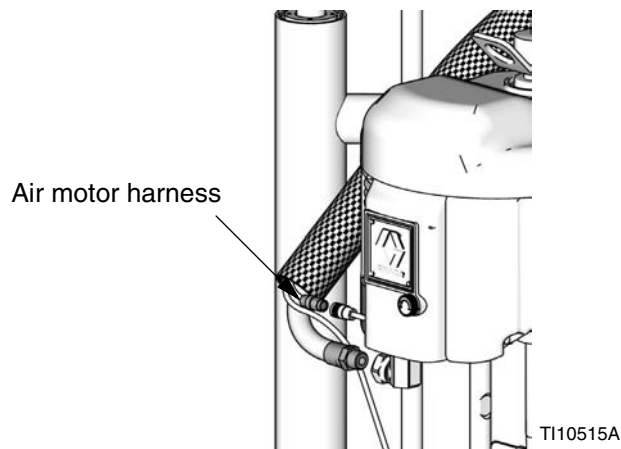
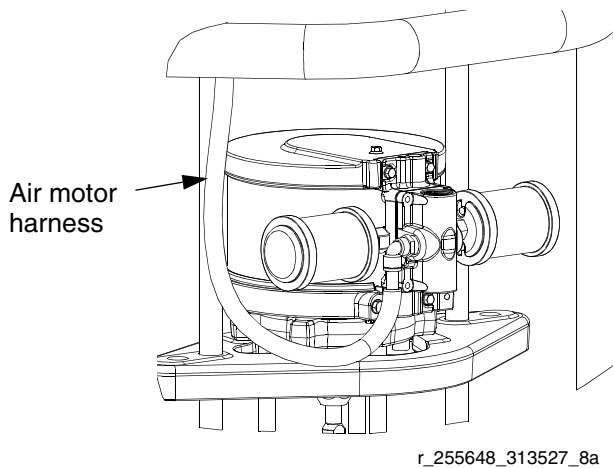

FIG. 21: NXT 2200-6500 Air Motor Harness
FIG. 22: NXT 200-1800 Air Motor Harness
3. Connect air hose to motor. If using a remote Data-Trak, connect electrical connections to the air motor. See FIG. 21 and FIG. 22 on page 25.
2. Secure motor to mounting plate (109) with nuts (114) and washers (113).
3. Install cross bar (1c), nuts (103), and washers (102).
5. Connect air hose to motor. If using a remote Data-Trak, connect electrical connections to the air motor. See FIG. 21 on page 25.